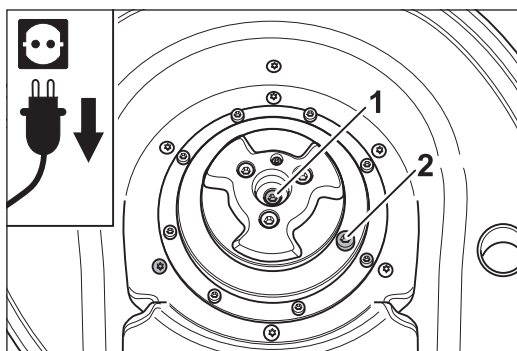

Fig. 34 The two screws with markings are oil drainage screws. **DO NOT UNSCREW THEM!**
**For this reason, NEVER open the oil drainage screws in the motor shaft or in the gear cover (Fig. 34).**